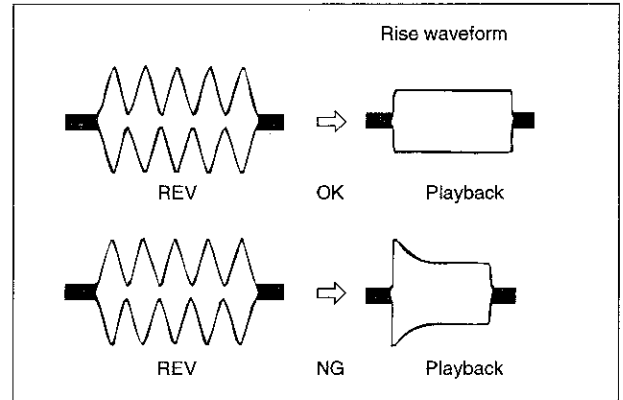

Figure 5
6. Unless the normal waveform is obtained (Figure 5), turn counterclockwise the upper flange (3) of Si roller (1), and repeat the step (5) above. Repeat the steps (5) and (6) until the normal waveform is obtained. At this time ascertain that the inlet travel does not change in the normal playback state. If any change is found, adjust the Sup GR, and redo the step (5).